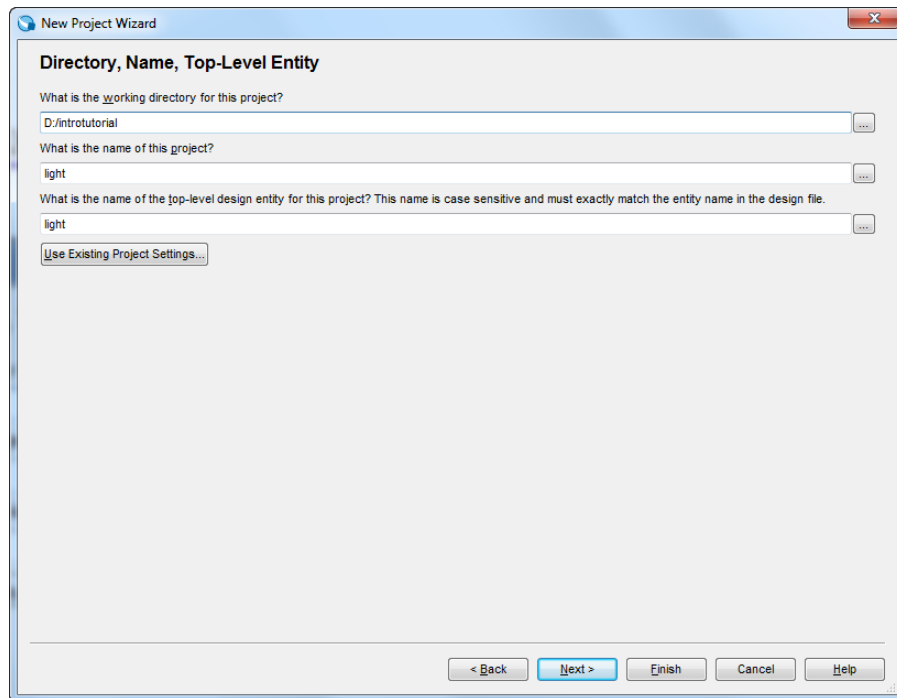
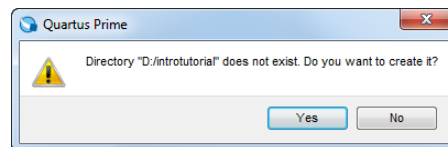

Figure 4. Creation of a new project.
Figure 5. Quartus Prime software can create a new directory for the project.
1. Select **File > New Project Wizard** and click **Next** to reach the window in Figure 4, which asks for the name and directory of the project.
2. Set the working directory to be *introtutorial*; of course, you can use some other directory name of your choice if you prefer. The project must have a name, which is usually the same as the top-level design entity that will be included in the project. Choose *light* as the name for both the project and the top-level entity, as shown in Figure 4. Press **Next**. Since we have not yet created the directory *introtutorial*, Quartus Prime software displays the pop-up box in Figure 5 asking if it should create the desired directory. Click **Yes**, which leads to the window in Figure 6.
The required circuit is described by the Verilog code in Figure 13. Note that the Verilog module is called *light* to match the name given in Figure 4, which was specified when the project was created. This code can be typed into a file by using any text editor that stores ASCII files, or by using the Quartus Prime text editing facilities. While the file can be given any name, it is a common designers' practice to use the same name as the name of the top-level Verilog module. The file name must include the extension *v*, which indicates a Verilog file. So, we will use the name *light.v*.